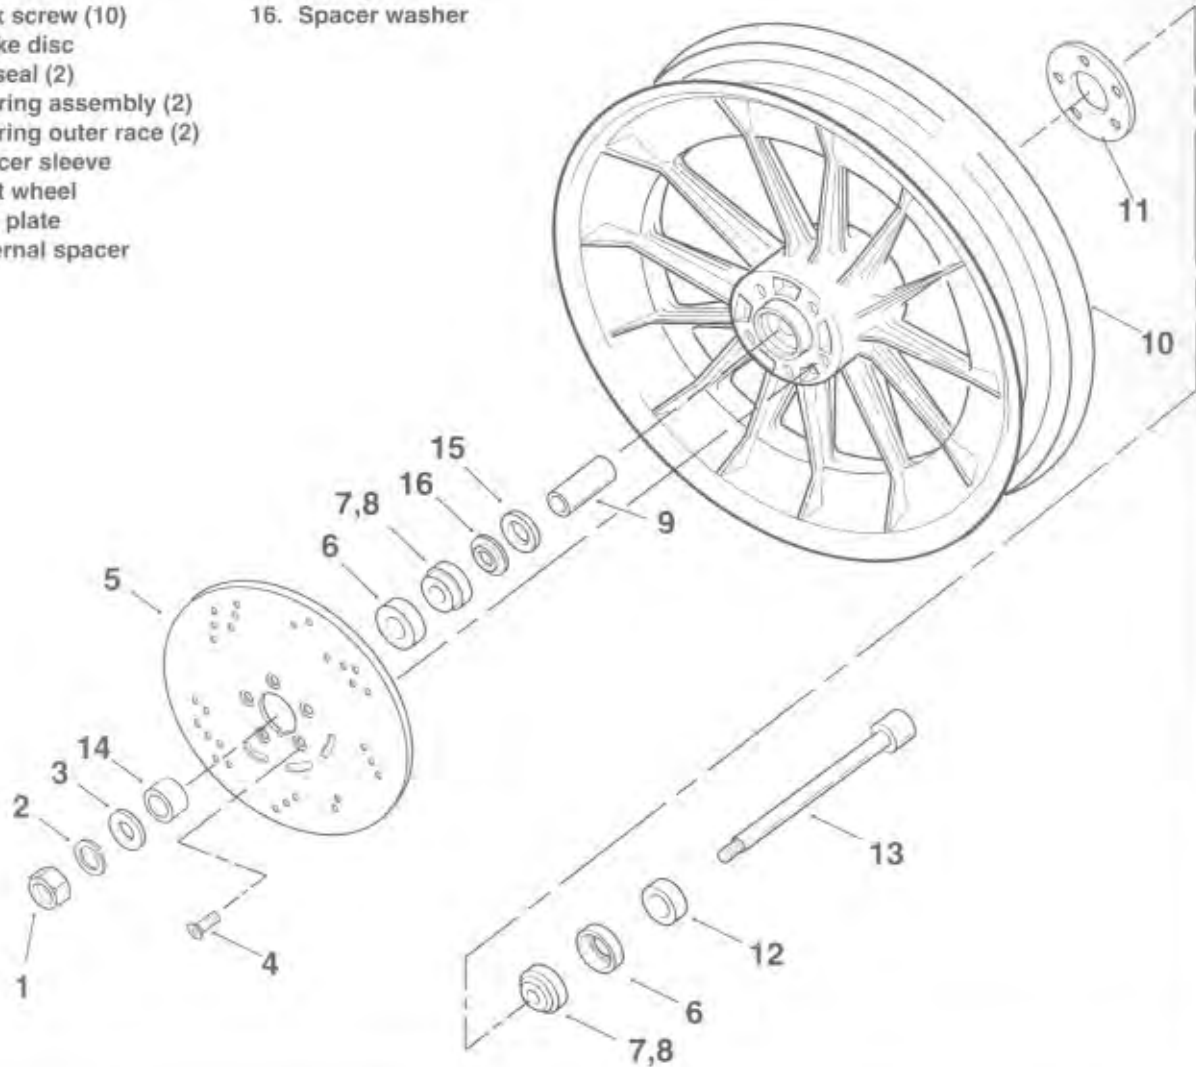
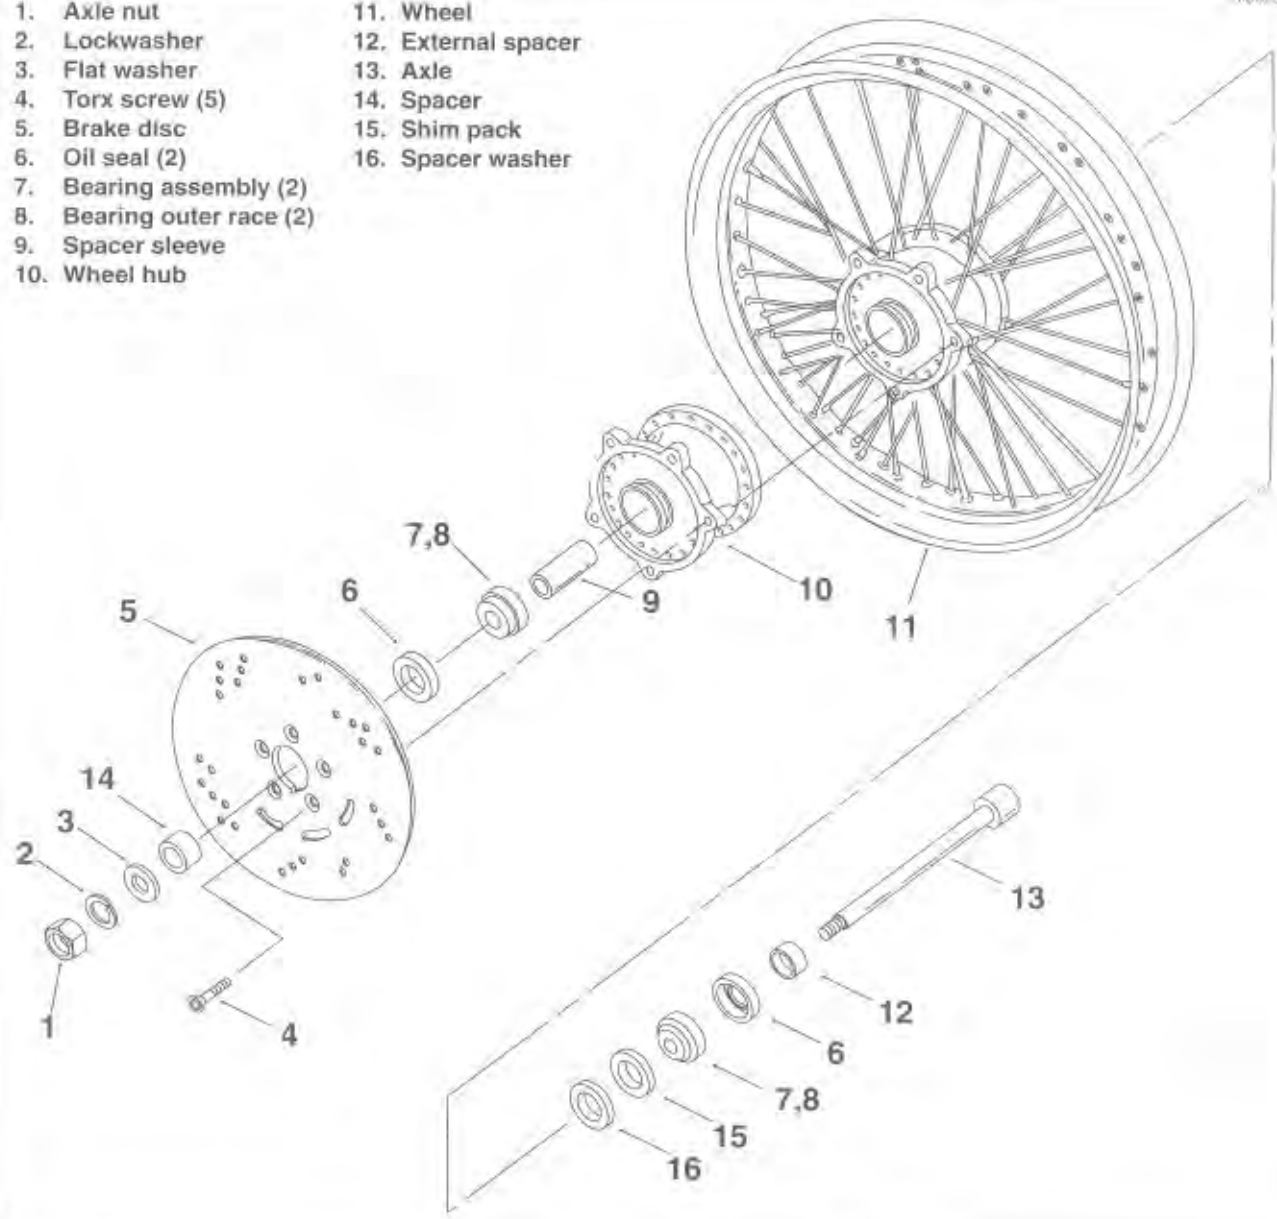

Figure 2-3. Cast Front Wheel
Figure 2-4. Laced Front Wheel
(Figure 2-3, Figure 2-4)
ASSEMBLY (Figure 2-3, Figure 2-4)
- Verify that the brake disc is thoroughly clean. Install disc on hub aligning notch in disc with 1/4-in. (6.35 mm) diameter hole in hub. Secure disc with **new** T-40 TORX screws (4). Tighten screws to 16-24 ft-lbs (22-33 Nm) torque.
- On cast wheels (Fig. 2-4), install hub plate (11) to wheel hub using **new** T-40 TORX screws, if removed. Tighten screws to 16-24 ft-lbs (22-33 Nm) torque.
- If removed, press outer races (8) into each side of hub using WHEEL BEARING RACE REMOVER/INSTALLER (Part No. HD-33071A). Apply a liberal amount of bearing grease to bearing outer races after installation.
- Apply a liberal amount of bearing grease to bearing inner races (7). Pack grease into cavities around rollers. Use of HD-33067 Wheel Bearing Packer is recommended.